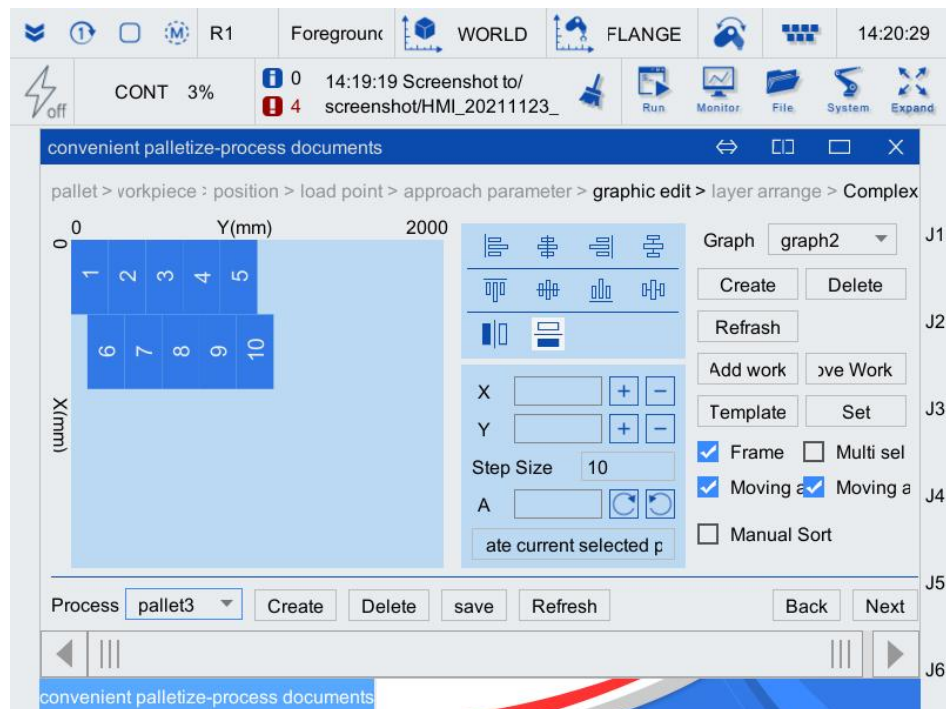

Figure 3-49 Editing interface of graphics on the second layer of stacks in multiples of five
Step7. Drag the workpieces with the stylus to make the arrangement of workpieces as shown in Figure 3-49.